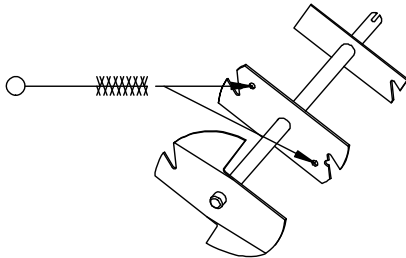

Figure 6-6 Clean beater shaft
c. The beater shaft inside spring mounting holes and the scraper blade mounting indentations, as shown in figure 6-6.